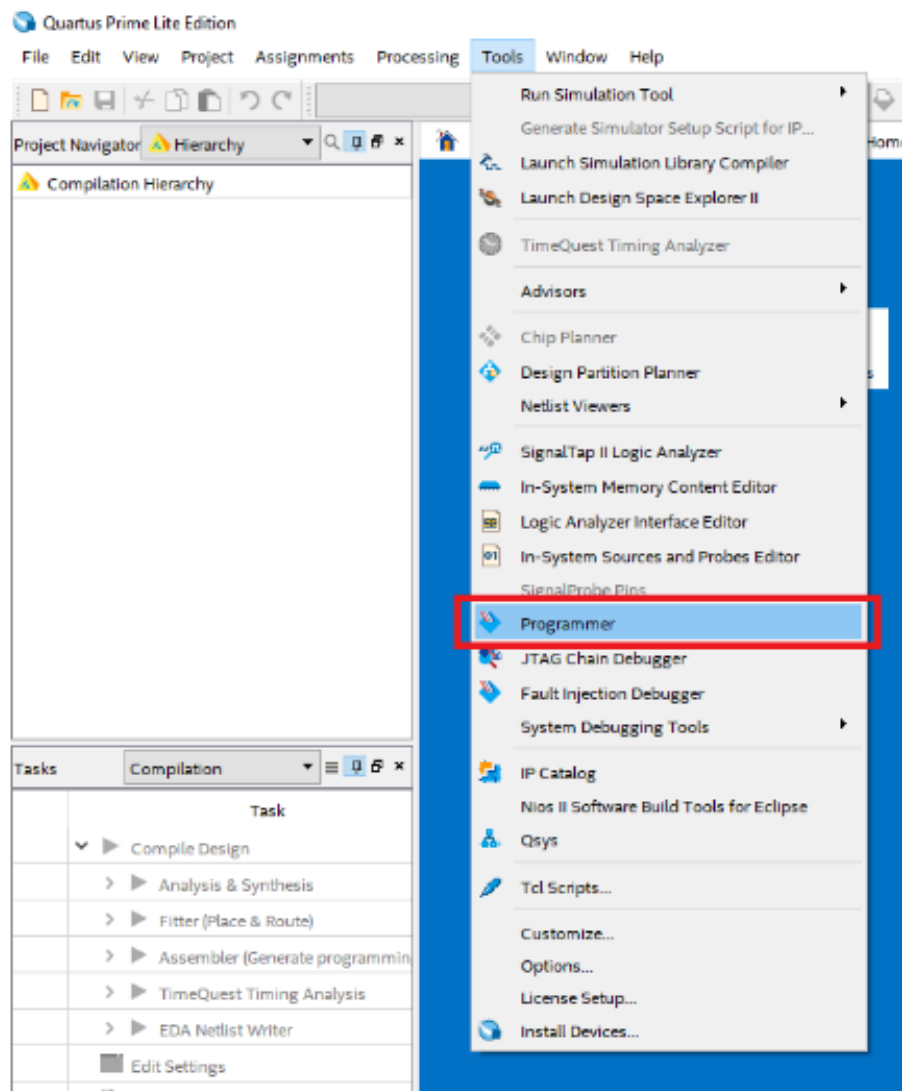

Figure 8: Program the JIC file - Step 2
2. In Quartus, select Tools → Programmer, and the Chain.cdf window will appear, Fig. 8.